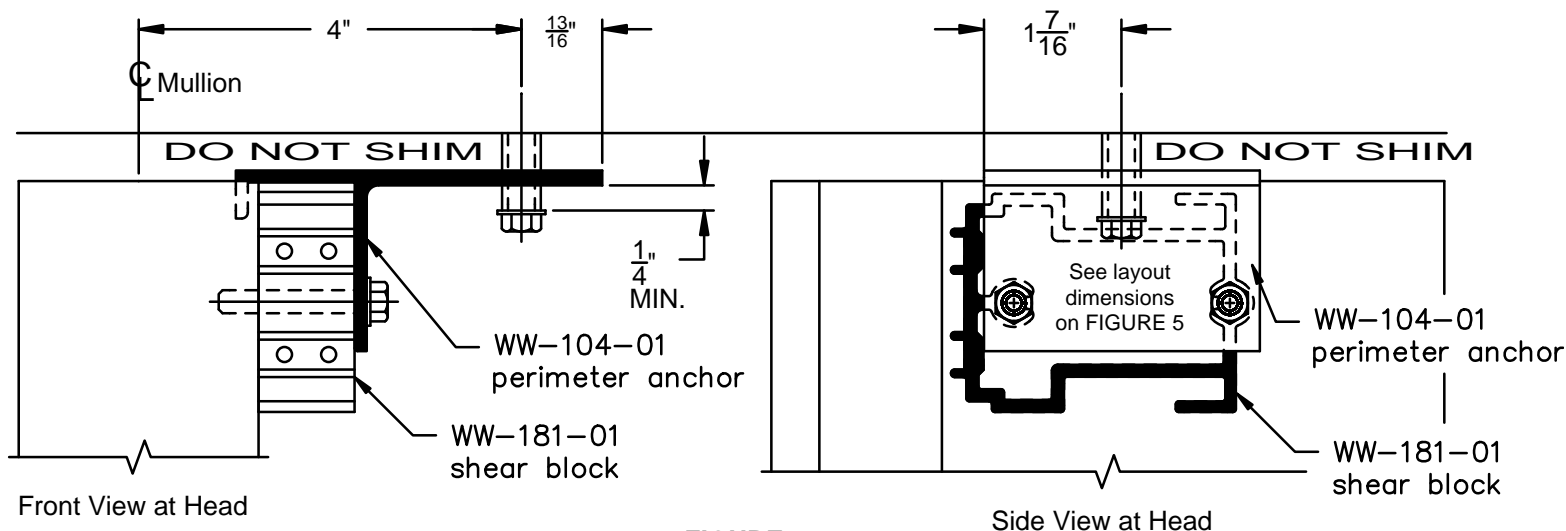

FIGURE 7
2.1.2 Install verticals plumb and level. Place shims under vertical mullion and anchor at sill to evenly distribute deadload from wall. Install pipe sleeve anchor at head to allow for thermal movement of the vertical mullions. SEE FIGURE 7, page 13.